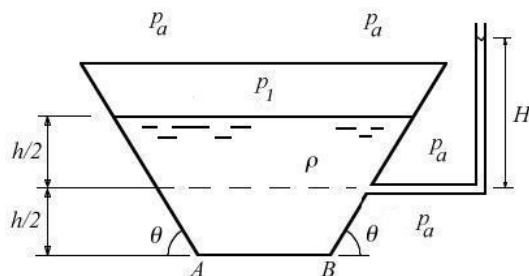

Figure P2.54
2.54 The closed tank shown in Figure P2.54 is filled with water of density ρ to a depth h . The absolute pressure in the air trapped above the water is $p_1 = 2p_a$, where p_a is the atmospheric pressure. The tank has a width w (into the page)